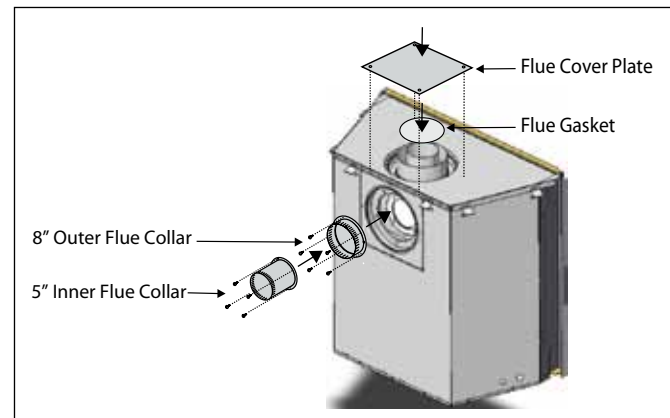

Figure 9a. Flue cover and collar installation, *rear vented* fireplace.
3. Install the (removed) rear flue cover and gasket material, to the top vent outlet. Fasten the cover with included hardware, as illustrated *Figure 9a*.
4. Install the (5" and 8") collars to the rear vent outlet using the included hardware, as illustrated *Figure 9a*.